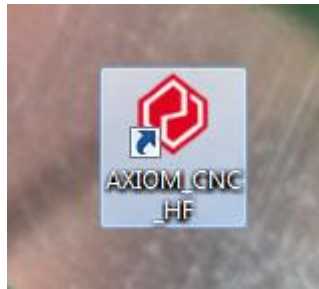

Figure 40: The UCCNC shortcut you should now have on the desktop
- Double click on the icon on your desktop that the profile installer created in Step 2. This should be "I2R_CNC_HF" on the desktop (as shown in Figure 40)